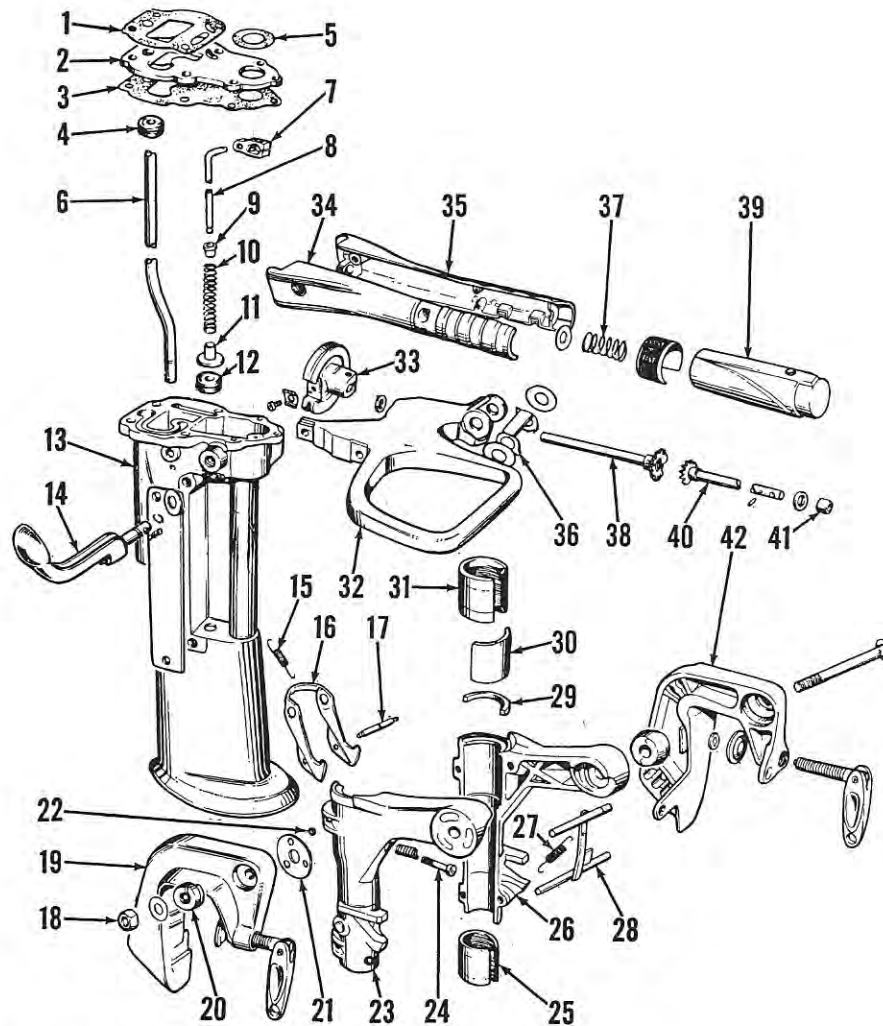
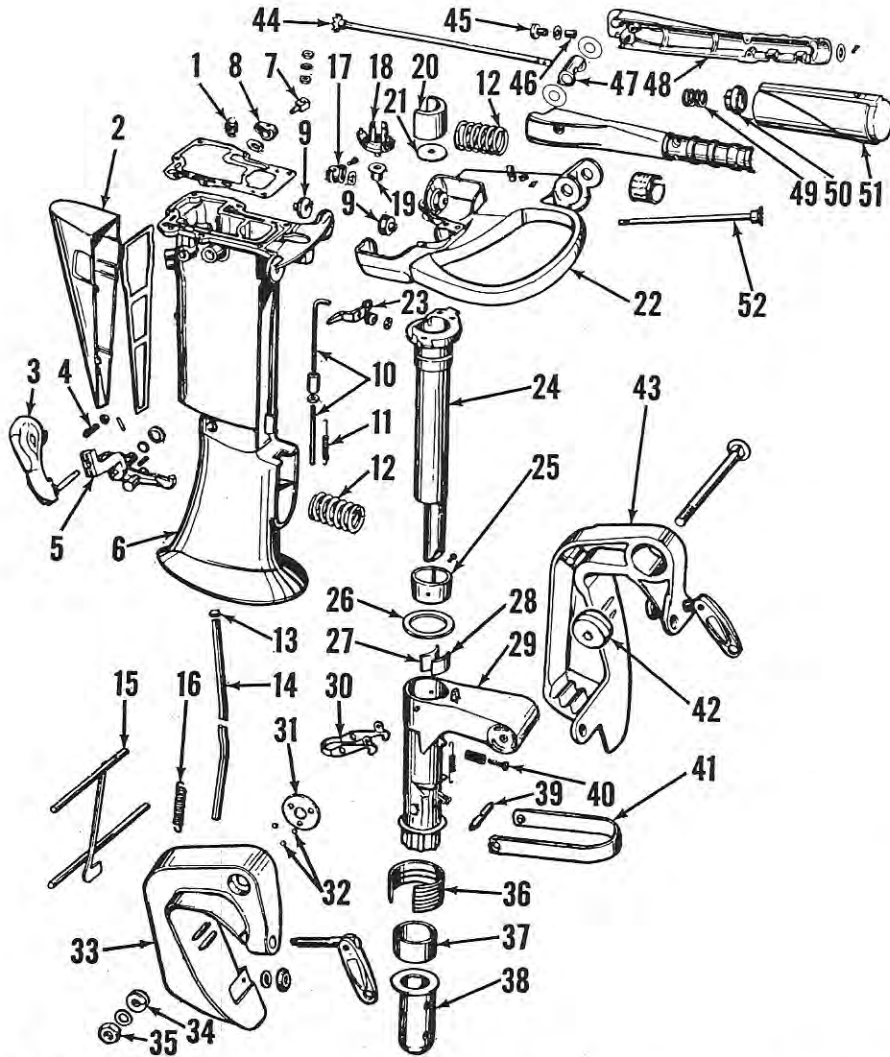
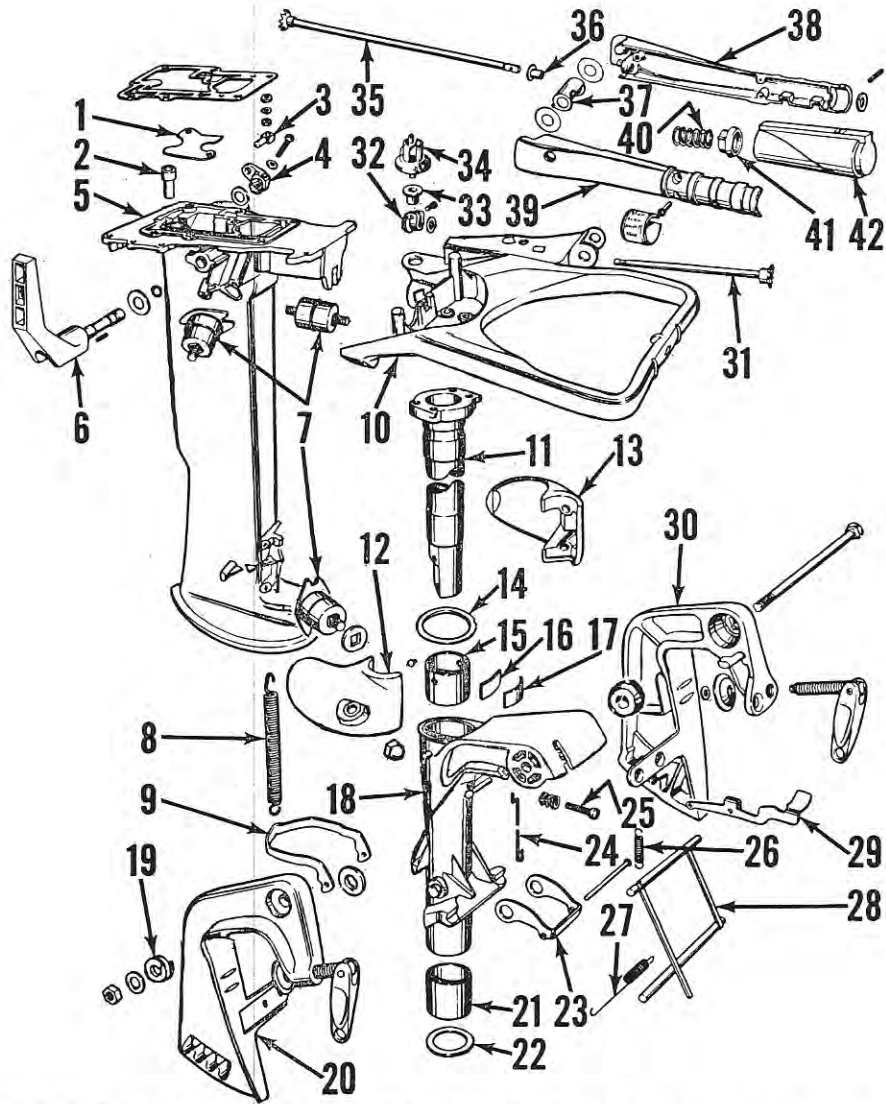

Fig. G37—Exploded view of model 5D11 stern bracket, exhaust housing and associated parts.
Fig. G38—Exploded view of drive shaft housing, stern bracket and associated parts used on models 5D12 through 5D16.
Fig. G39—Exploded view of stern bracket, exhaust housing and associated parts used on 5D17 and later models.
Use the appropriate exploded views (Fig. G34 through Fig. G39) as a guide when overhauling the lower unit, together with the special precautions listed below. All gasket surfaces must be smooth, free from nicks and burrs, and assembled using a non-hardening type sealer such as Perfect Seal No. 4. All joints without gaskets must be smooth and free from nicks, burrs and old cement, and sealed with a hardening sealer such as Sealer 1000, available from Marprox Corporation, P. O. Box 955, She-
First remove the power head from lower unit. Remove the two nuts retaining shifter swivel (7—Fig. G38 or 3—Fig. G39) to
shifter rod, then unbolt and remove the gearcase housing and shifter rod. When reassembling, adjust the nuts on swivel until shift lever (3—Fig. G38 or 6—Fig. G39) moves the same distance on each side of the "Neutral" detent position and clutch dog (52—Fig. G36) is centered between forward and reverse gears when shift lever is in neutral.
**STEERING TENSION.** Steering tension can be adjusted by turning the adjusting screw (24—Fig. G37, 40—Fig. G38 or 25—Fig. G39) until motor is easy to steer, but will maintain a set course.